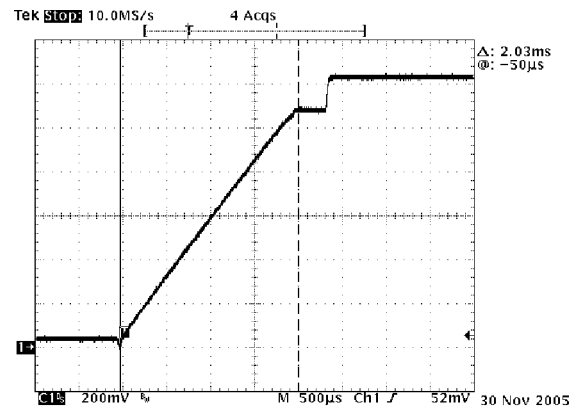

Figure 24. VR11 Startup
The controller supports two different startup routines. A legacy VR10 ramp to the initial VID code, or a VR11 Ramp to the 1.1 V VID code, with a pause to capture the VID code then resume ramping to target value based on an internal slew rate limit. See Figures 24 and 25. The controller is designed to regulate to the voltage on the SS pin until it reaches the internal DAC voltage. The soft-start cap sets the initial ramp rate using a typical 5.0 µA current. The typical value to use for the soft-start cap (SS), is typically set to 0.01 µF. This results in a ramp time to 1.1 V of 2.2 ms based on equation 1.